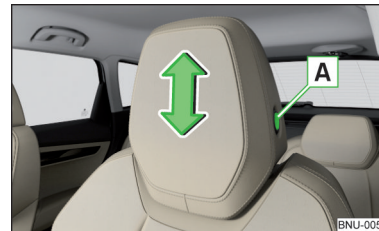

Fig. 96
- ▶ To **adjust the height**, hold the locking button **A** and move the rest in the desired direction » Fig. 96.